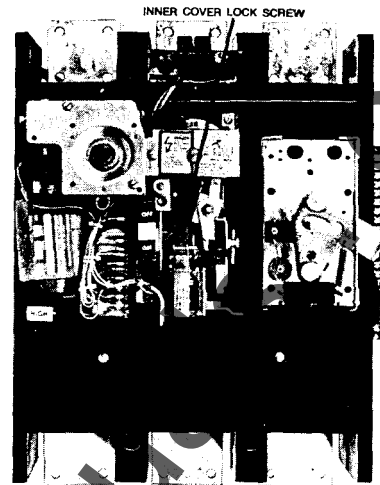

FIG. 20. INNER COVER LOCK SCREW
2. Loosen captive inner cover lock screw as shown in Fig. 20.
- c. Tighten inner cover lock screw to 10-in.-lbs. max., See Fig. 20.